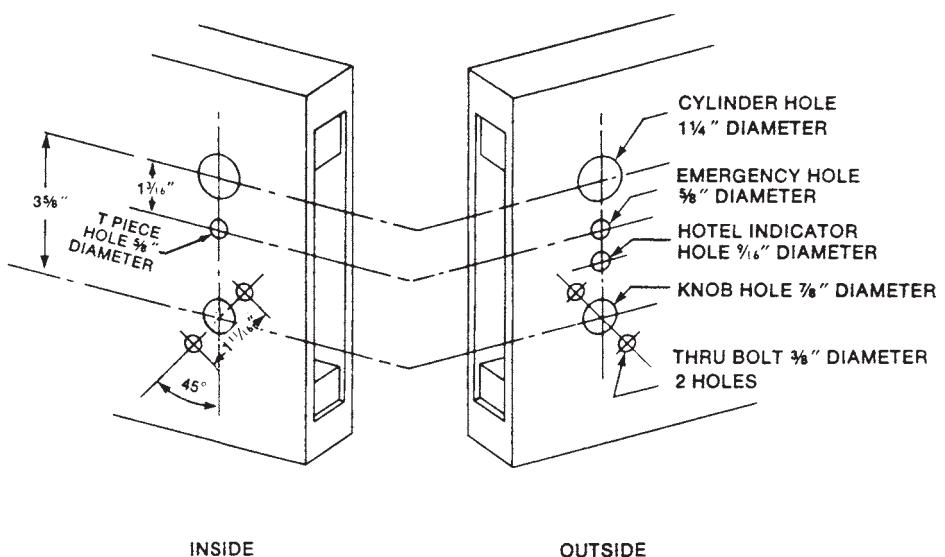

Figure 19.44 Electrified key-in-knob lock installation, Step 2.
2. Bore the $2\frac{1}{8}$ -inch hole at the point marked from both sides of the door. Bore the 1-inch latch unit hole straight into the edge of the door from the center point of the height line. Mortise the latch front and install the latch unit (Fig. 19.44).